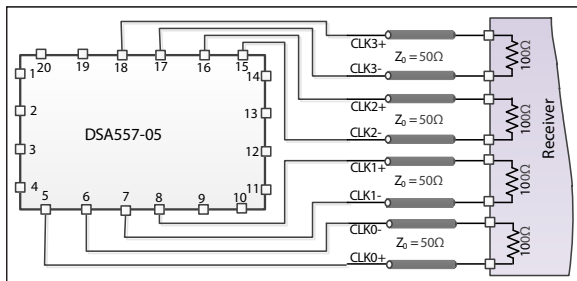
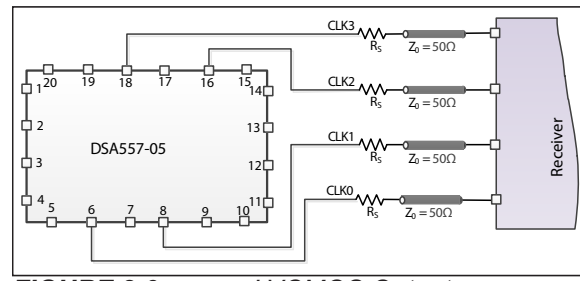

FIGURE 2-8: LVDS Outputs.
FIGURE 2-9: LVCMOS Outputs.
- Added Figure 2-2, Figure 2-3, Figure 2-5, Figure 2-6, Figure 2-8, and Figure 2-9.